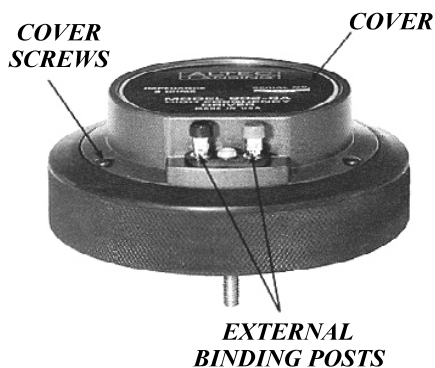

Figure 1. Typical Altec® 900-Series H.F. Compression Driver
1. Remove leads from external binding posts (see Figure 1). Note electrical phasing (polarity) as leads are removed.
3. Remove screws securing driver cover (see Figure 1).